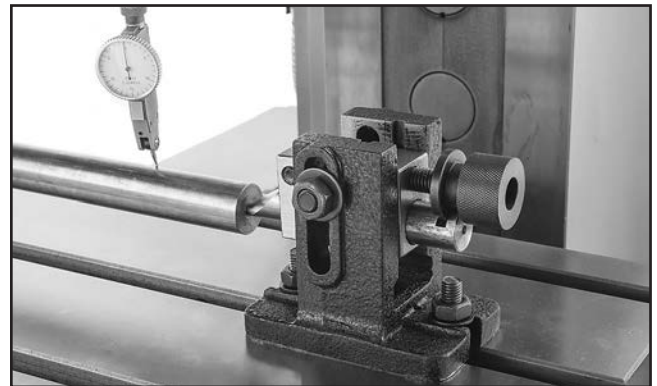

Figure 24. Adjusting tailstock for offset.
5. Move table along X-axis and indicate horizontal centerline of workpiece near rotary table. If there is an offset, adjust position of tailstock half the distance of the offset and recheck (see **Figure 24**).